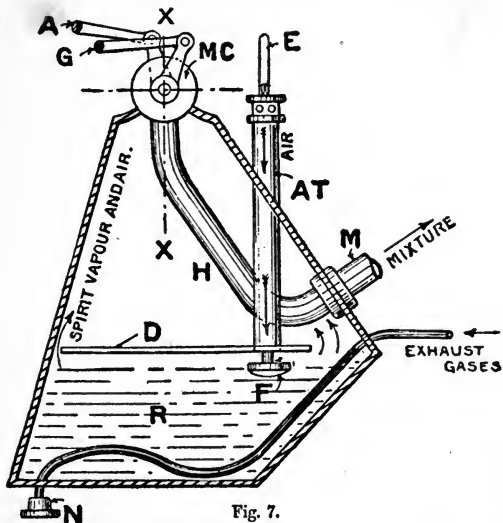
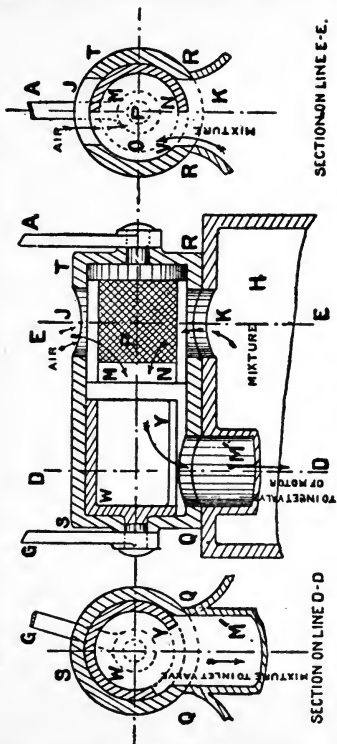

Fig. 7.
Fig. 10.
14. Surface Carburettors.—The carburettors that were first generally adopted, and are still used on some motor cycles, were of the surface type, an example of which, of the pattern used on motor tricycles,² namely the De Dion, is shown in Fig. 7. Outwardly it consists of a triangular brass or copper box, shaped to fit between the tricycle frame tubes and the rider's seat. In the figure, one side has been removed to show the arrangement of the interior; a plate D, fixed to the air-tube or chimney AT, divides the whole box into two parts, the lower forming a reservoir for the gasolene, a further quantity of which is generally carried in a cylin-
the plate D during the suction stroke of the engine,¹ so that it may be diffused in the gasolene vapor, as explained, and be drawn through the twin tap MC, which is arranged to admit an adjustable quantity of additional air to form a suitable mixture to enter the cylinder through the pipe M. A bent pipe, LN, from the engine exhaust passes through the lower part of the reservoir to warm the gasolene, and to accelerate its vaporation, as evaporation of the spirit lowers its temperature. F is a float fixed to a wire EF, which passes through the air-tube AT, the length of the wire at E projecting above AT indicating the level of the gasolene in the reservoir. The most interesting and important feature of this type is the *twin tap* MC, shown in detail in Figs. 8, 9, and 10, the Fig. 8 showing a section on line XX (Fig. 7), and Figs. 9 and 10 being sections taken through the lines DD and EE (Fig. 8) respectively. These show how the *air* lever A is connected to a hollow cylindrical part, a half of it, MON, being made of wire gauze, in such a way that a movement of lever A controls the quantity of rich mixture entering below at K from the chamber H, and the amount of auxiliary air passing in from above at J, the two streams mixing in the chamber P to form the perfected mixture, which passes into the pipe M on its way to the cylinder. A movement of the lever A (Fig. 10) to the right increasing the opening for air, and decreasing the opening VN for the rich mixture, so that the quality of the mixture can be regulated when starting to give the best results for the gasolene used, and the temperature, pressure, and condition of the atmosphere.